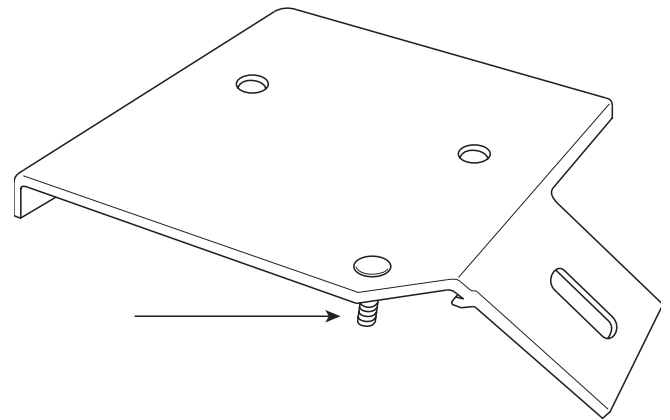

Fig. 7
DRIVERS (LEFT) SIDE ONLY - Insert 5/16" clinch bolt (K) into the small hole of the lower bracket (F) before attaching the lower bracket to the air spring. Supporting the lower bracket will ease installation of the clinch bolt. Use a hammer to drive the bolt into the hole in the lower bracket (Fig. 7).